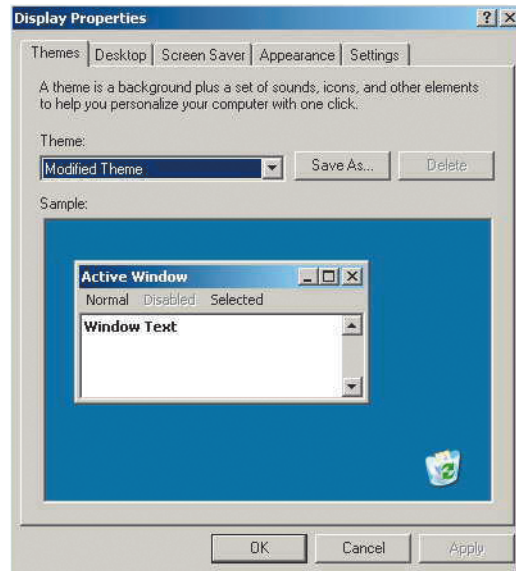

Figure 10. Display Properties Dialog Box
2. Select the DISPLAY icon from this window. The system displays the Display Properties dialog box (refer to Figure 10).